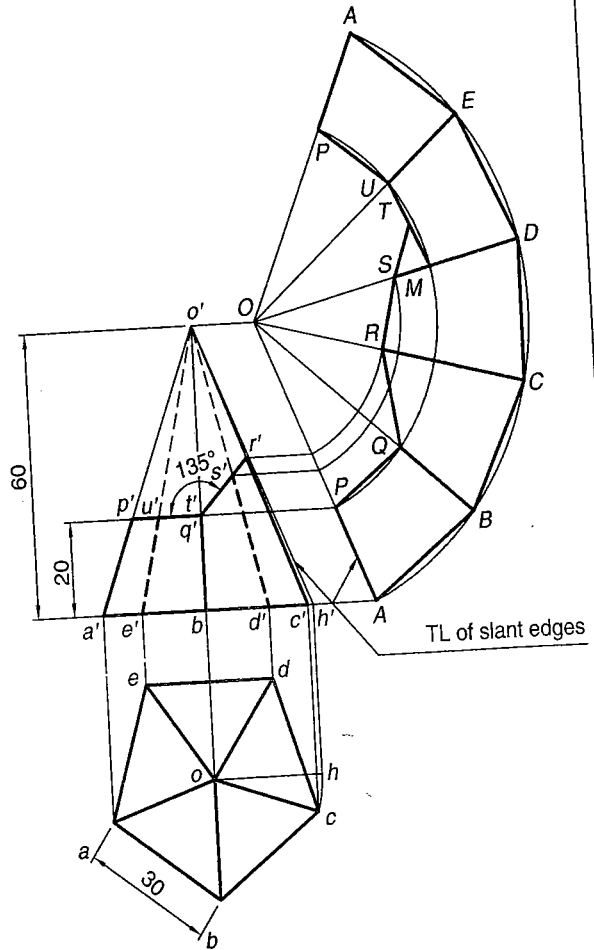

Fig. 13.32
**PROBLEM 13.32 (FIG. 13.32)** A pentagonal pyramid, having base with a 30 mm side and a 60 mm axis, rests on its base in the H.P. It is cut by two section planes which meet at a height of 20 mm from the base. One of the section planes is horizontal, while the other is an auxiliary inclined plane whose V.T. makes  $45^\circ$  with H.P. Draw the development of the lateral surface of the solid when apex is removed.
**CONSTRUCTION Figure 13.32**